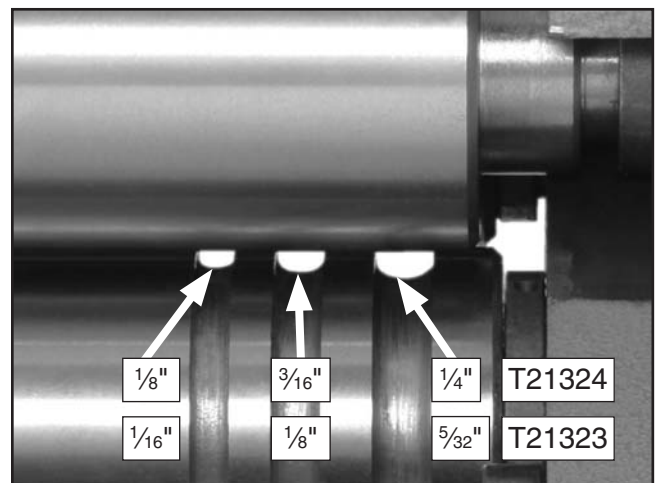

Figure 29. Wire grooves.
- Place your workpiece into the smallest possible groove on the wheel. The three sizes on the T21324 are $\frac{1}{8}$ ", $\frac{3}{16}$ ", and $\frac{1}{4}$ " and on the T21323 are $\frac{1}{16}$ ", $\frac{1}{8}$ ", and $\frac{5}{32}$ "(**Figure 29**).